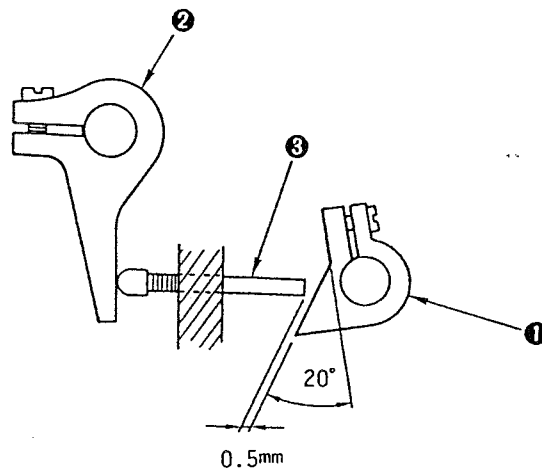

Fig. 67
<p>When the sewing machine is in operation, attach starting arm ❶ so that the flat section of the arm inclines by approximately 20°. Then tilt the sewing machine away from you while fully depressing the foot pedal. Tilting the sewing machine will lower the foot pedal. So, return the foot pedal to its predetermined position. (Placing a piece of support block will ensure the position of the foot pedal.) Keeping the foot pedal at that position, fix re-starting arm ❶ so that a clearance of approximately 0.5 mm is provided between re-starting arm pin ❸ and re-starting arm ❶ as illustrated in Fig. 67.</p>	<p>If the clearance between the re-starting arm pin and the re-starting arm is 0 or less, stop-motion failure may result. If the clearance is larger than 0.5 mm, the clutch actuating arm may fail to properly return to its home position when re-starting the sewing machine, which means that the sewing machine will fail to start.</p>